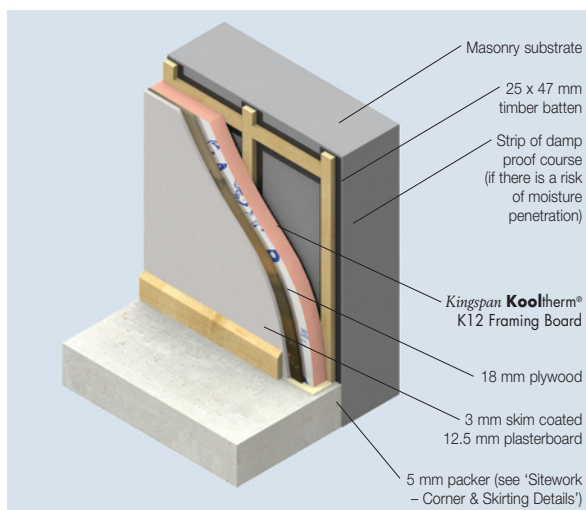

Figure 9
- Alternatively, where there are to be extensive heavy internal fittings, the construction outlined in Figure 9 can be adopted.